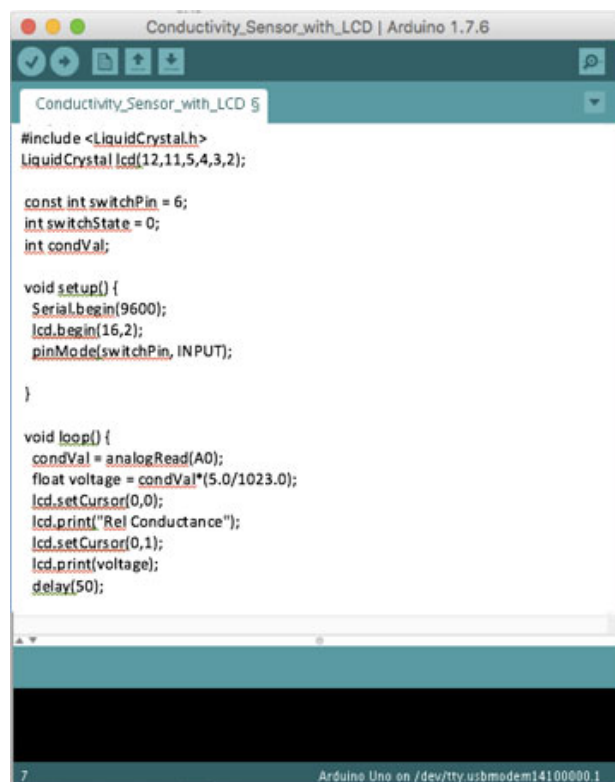

Figure 13. Conductivity measurement code for the Arduino.
4. Once groups have constructed their circuitry and had it verified by the teacher, they open the Arduino software on their computers and use a USB cord to connect the Arduino to the computer. They enter the code provided on the handout (or copy/paste the code if a digital version of the handout is made available). Alternatively, you may provide students with the Conductivity Sensor with LCD ino file that contains the code so that they can merely open the file, verify the contents and upload to the Arduino. The code is shown in Figure 13, which is Figure 4 on the handout. Since it is often helpful to explain the meaning of the code to students, refer to Arduino Code Comments for the Teacher, which provides a screen capture of the code with comments that explain what each line of the code does.